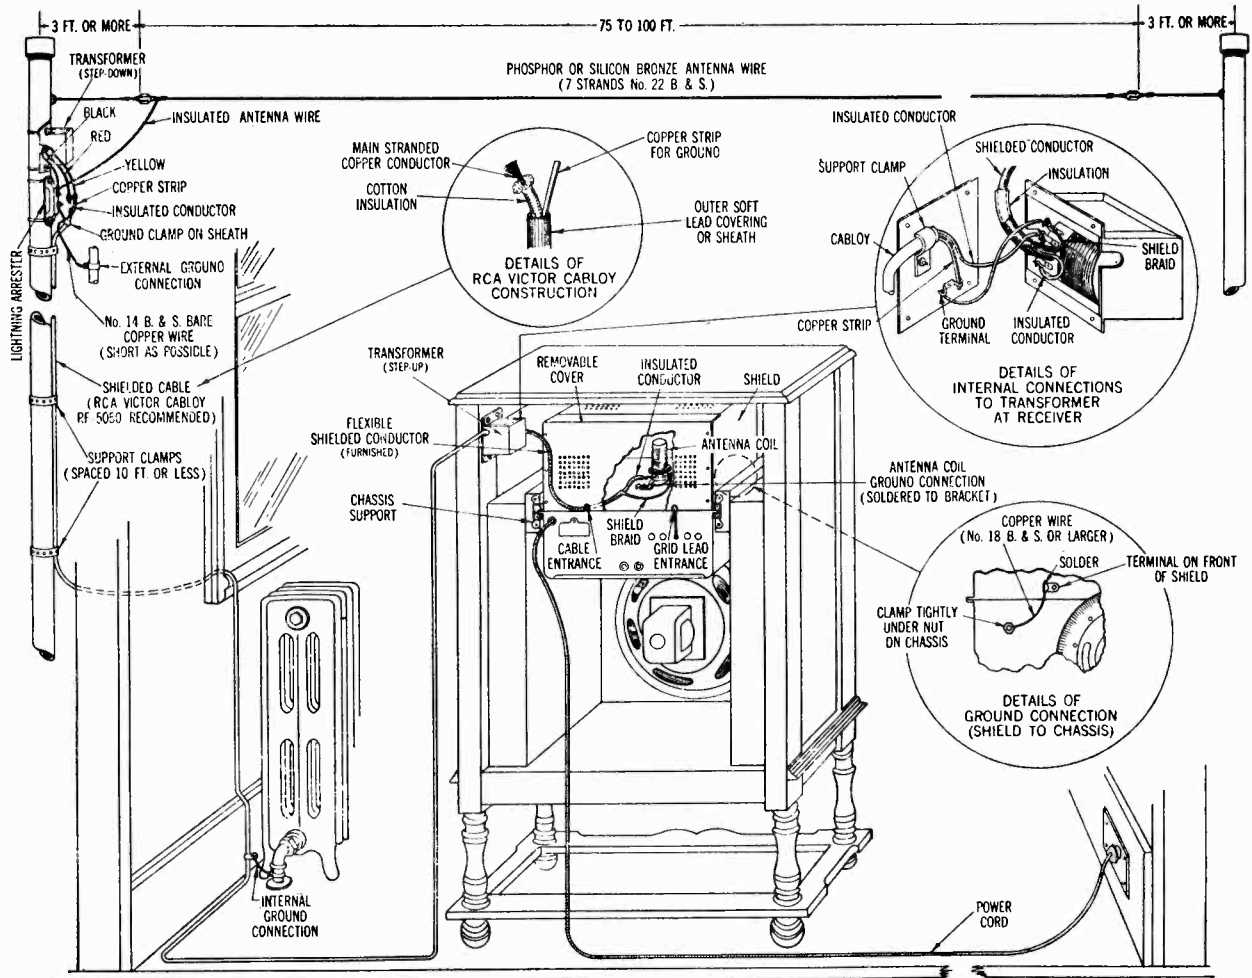

Figure 1—Typical Shield Kit Installation
A typical antenna installation equipped with the shield kit is shown in Figure 1. The kit, as furnished, consists of two transformers, a radio chassis shield cover, and a short flexible shielded conductor. One of the transformers (with three leads attached), together with a suitable lightning arrester, should be mounted on the antenna mast adjacent to the lead-in. The second transformer should be mounted in the receiver cabinet near the radio chassis. The connections between the two transformers should be made with weather-proof low-capacity shielded cable. Best results will be obtained using RCA Victor Cabloy "RF-5050" (see inset, Fig. 1). This cable has been developed especially for such applications and may be obtained in the length required from your dealer. Its heavy external lead sheath is suitable for fastening support and ground clamps where required. For best performance, the shield covering of this cable should be grounded at the antenna end in addition to the customary water pipe or radiator connection inside the dwelling. Excellent auxiliary grounding facilities will be found available in many installations through the adaptation of an existing large-area conducting medium such as a metallic roof or fire escape.
Electrical connections to the internal terminals of the transformer at the receiver are made upon removal of the main case section from its mounting plate and are clearly illustrated by the detailed internal view at the upper right in Figure 1. The end of the Cabloy lead sheath must be secured beneath the support clamp, and the internal copper strip must be soldered to the ground terminal, both of which will be found attached to the inner surface of the mounting plate. After making all connections reassemble the main case section of the transformer upon its mounting plate, making certain that the Cabloy and the short flexible shielded conductor are brought through the slots provided.
**Important**—The ground terminal of the antenna coil in all cases must be connected to the chassis. In models R-76, R-77, R-78 and RE-81, this connection has been made at the factory and upon examination should be found intact. In models R-11 and R-21, make this connection by soldering a wire from the ground terminal of the coil to the coil bracket as shown in Figure 1.
Mounting of the shield cover can be effected only by removal of the radio chassis from its metallic supporting brackets. The control knobs and the two wood screws at the rear of each supporting bracket must first be removed in order to disengage the radio chassis. Clamp the shield cover to the chassis by means of the small bolts which attach the lower metallic cover to the chassis base. The shield also must be electrically grounded to the chassis metal by a wire connection as shown in Figure 1 (inset at lower right).